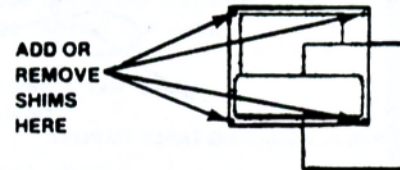

FIG. 5. SHIMMING LOCATIONS - TOP VIEW.
- (4) Shim between base mounting pads and floor until machine is level with weight resting evenly on all pads. See Fig. 5.
- (6) Correct clearance greater than 0.004-inch (0.1 mm) by shimming under base pad(s). Remove shims to **increase** clearance; add shims to **decrease** clearance. Refer to Fig. 5 on page 3.